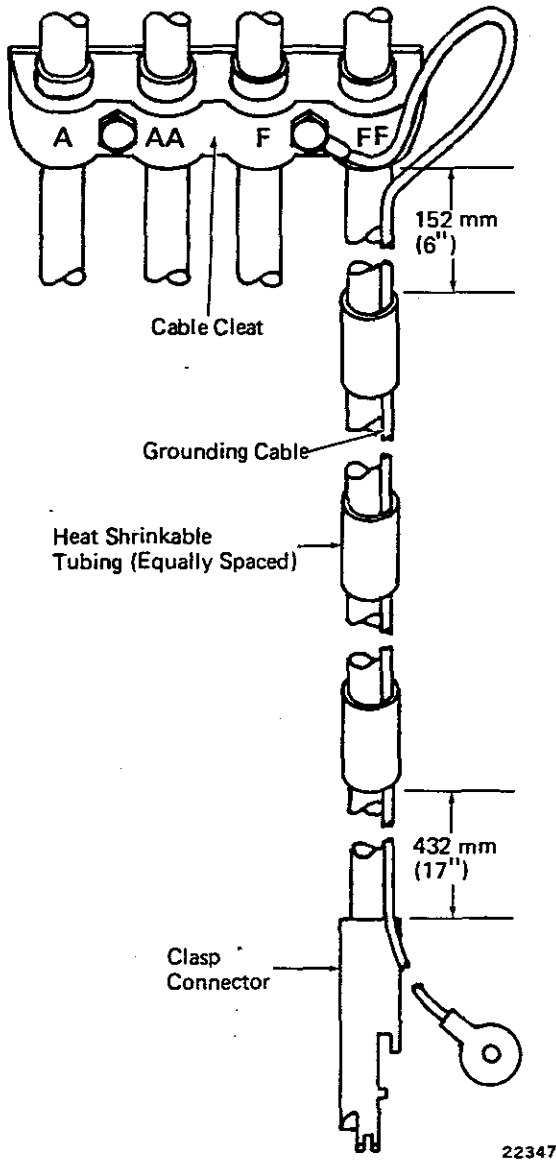

Fig. 1 - External Lead Grounding Cable
1. If the motor does not have a grounding cable, Fig. 1, install cable as follows. Refer to Service Data for grounding cable and heat shrinkable tubing part numbers.
- a. Attach grounding cable as shown in Fig. 1.
- c. Position three sections of heat shrinkable tubing as shown in Fig. 1.